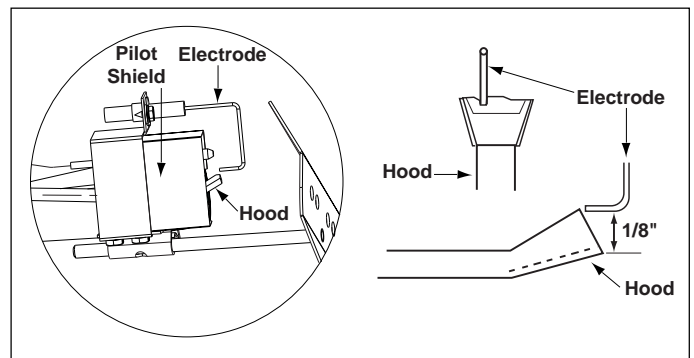

Figure 3. Electrode Positioning (MG Series shown)
4. Refer to Figure 3 for proper electrode positioning. The electrode must extend to the hood and be spaced 1/8" above the hood as shown in Figure 3. The electrode spacing is important for adequate spark and pilot ignition.